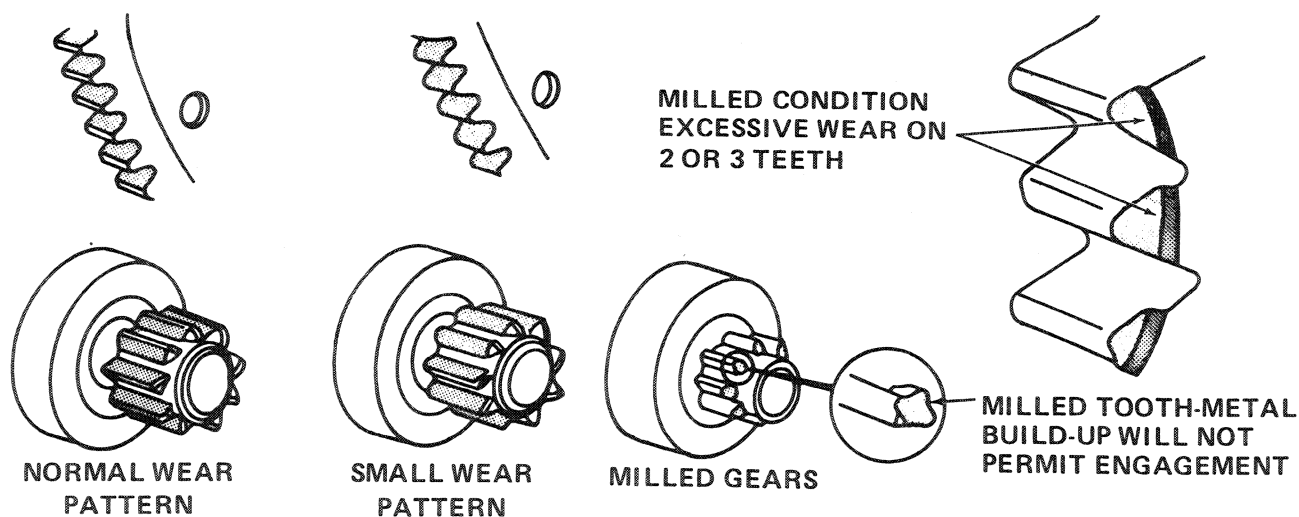

FIGURE 3-59
14. Inspect the pinion and ring gear teeth for excessive wear or damage. Replace the pinion and ring gear assemblies if they are excessively milled, pitted or have damaged teeth, Figure 3-59.